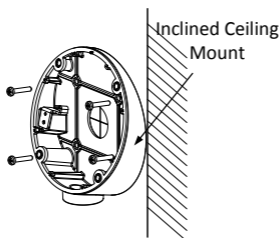

Figure 2-8 Fix the Inclined Ceiling Mount Body
5. Install the inclined ceiling mount's body on the ceiling/wall with four PA4 × 25 screws, as shown in Figure 2-8.